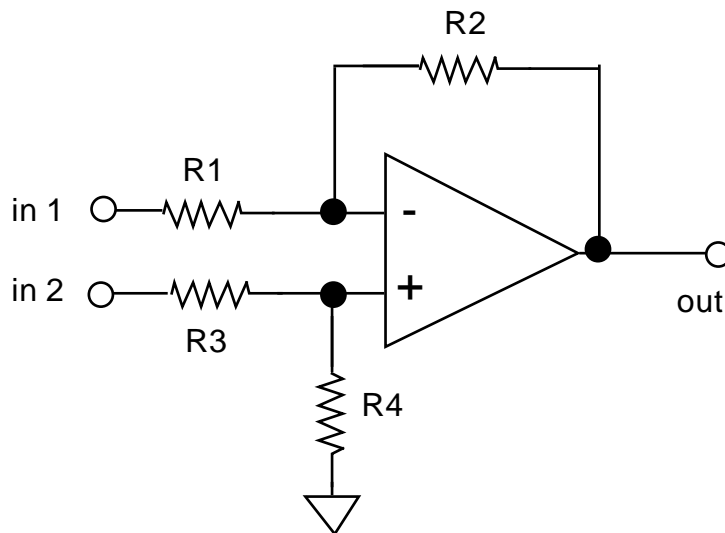

Figure 7-6 Differential Amplifier
} The circuit in Figure 7-6 is a differential amplifier.
- * Connect the circuit in Figure 7-6, using resistor values $R_1 = R_2 = R_3 = R_4 = 10 \text{ k}$.